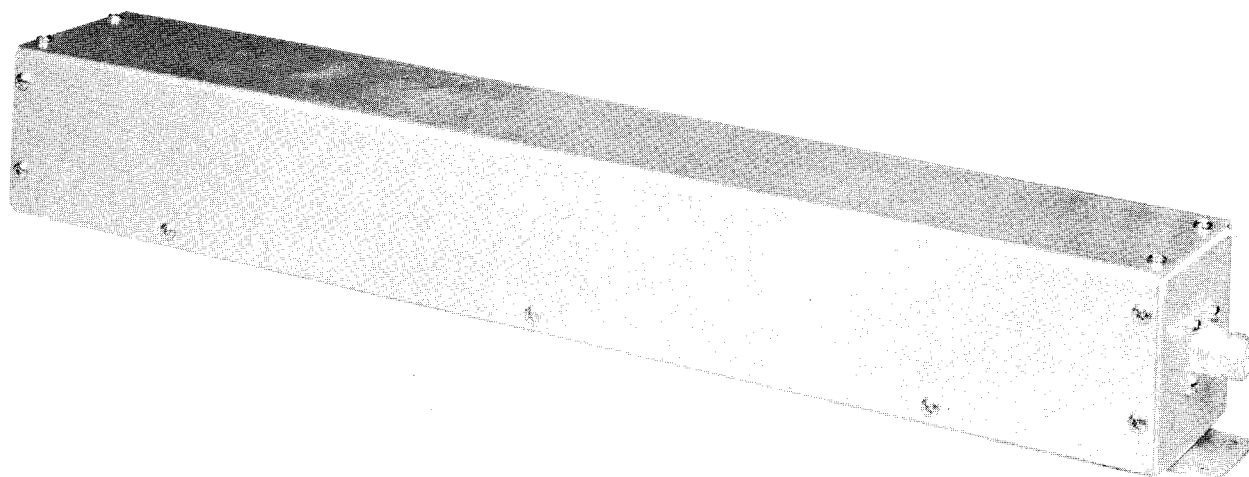

Figure 1-13. Electrical Dummy Load DA-218/U
l. ELECTRICAL DUMMY LOAD DA-218/U. - (Refer to figures 1-13 and 1-14.) The DA-218/U is a 50-ohm unbalanced, 500-watt nonradiating load. The unit is mounted on the air duct at the rear of the AN/URC-32( ) and receives cooling air through an opening in the mounting surface. The DA-218/U is connected to the dummy load output of the antenna tuning control. A switch allows the operator to connect the dummy load for tuning and testing in the transmit mode.